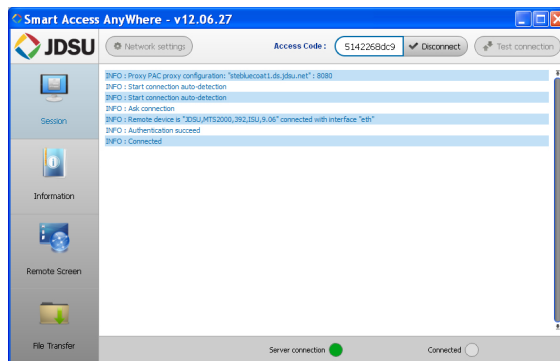

Figure 67 Session page
- 3 On the session screen (see Figure 67 on page 129), press button